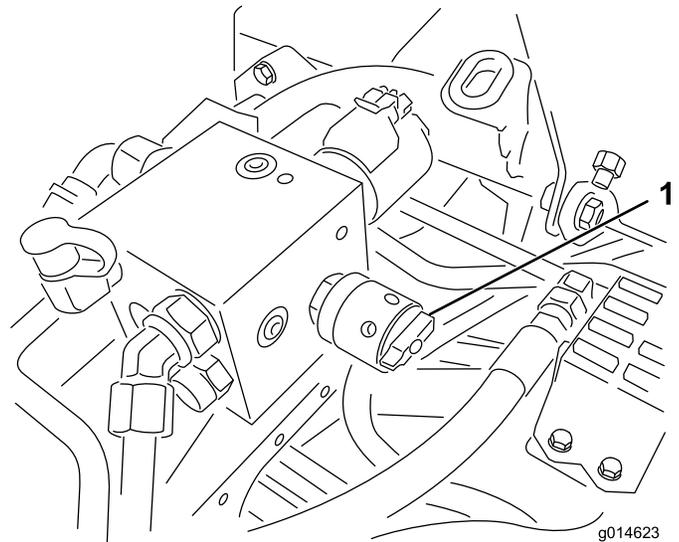

Figure 36
- To set the reel speed, rotate the knob (Figure 36) until the indicator arrows are in line with the number designating desired setting.